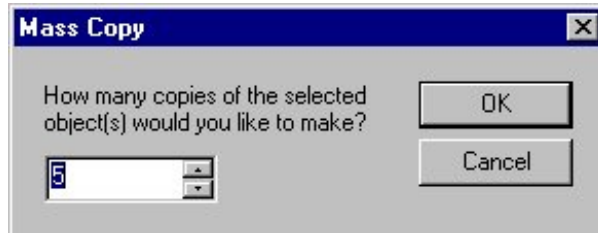

Figure 6-3: Mass Copy Dialog Box
2. Select Mass Copy on the Edit menu. The Mass Copy dialog box appears (Figure 6-3).